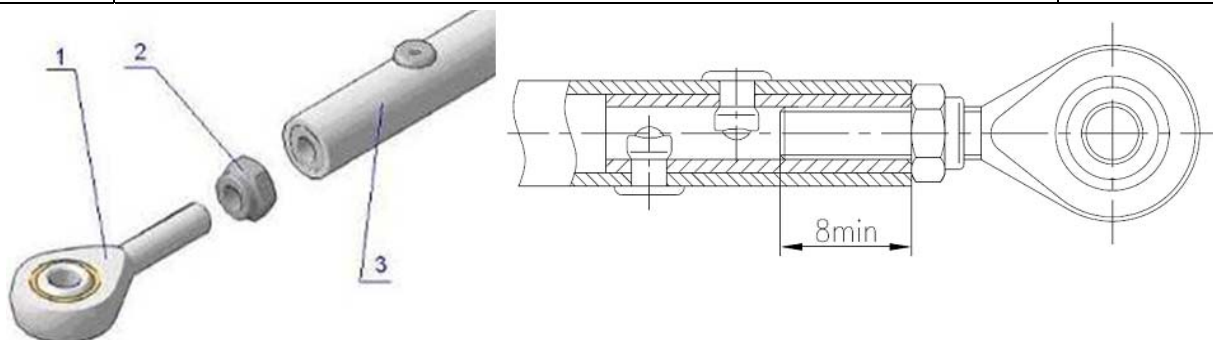

Fig. 20-00-4
B. Adjustment of Control Rods Length (Fig. 20-00-4)